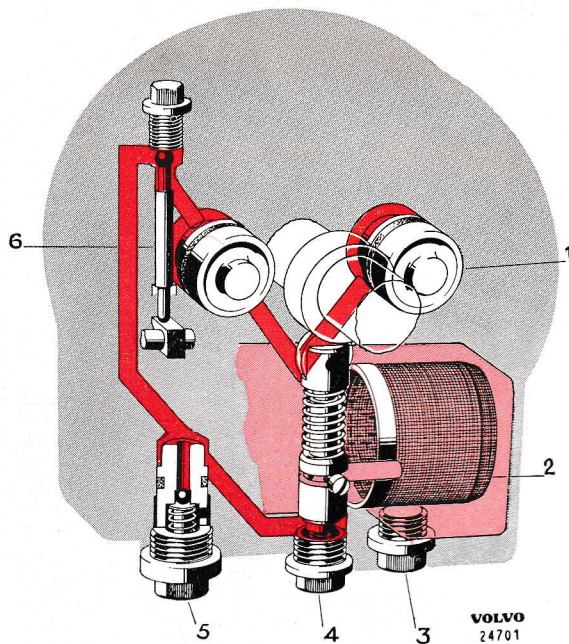
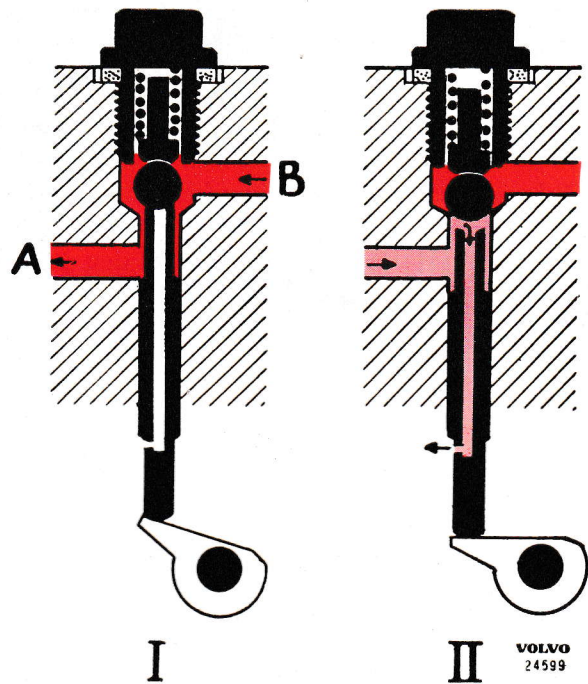

Fig. 4. Hydraulic system
Fig. 5. Control valve
There is a plunger type pump in the overdrive (4, Fig. 4) which is driven by a cam on the mainshaft. When the control valve (6) opens (position I, Fig. 5), oil under pressure from the pump flows via the valve to two cylinders (1). The plungers in the cylinders then press the clutch disk forwards to make contact with the brake drum. When the overdrive is disengaged, the control valve shuts off the connection between the pump and cylinders. The clutch disk is then pressed rearwards by the springs. The oil in the cylinders flows out through the hollow valve rod into the overdrive housing, see II, Fig. 5.
the plug (3, Fig. 4. Marked "Drain") under the oil strainer.
5. The pump and pump valve are fitted in the reverse order to removing. Check that the gasket for the plug (4, Fig. 4) is intact. Fill up with oil.